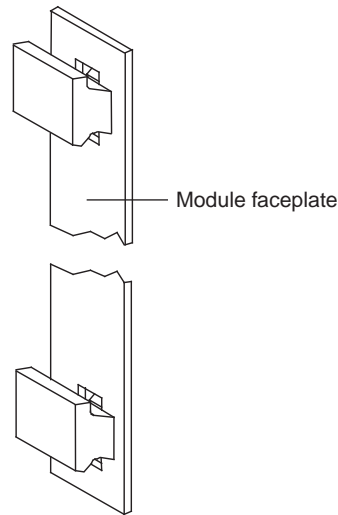

Figure 8 Handles in Center Position
- 7 Gently move the inject handles to their center position. See Figure 8.